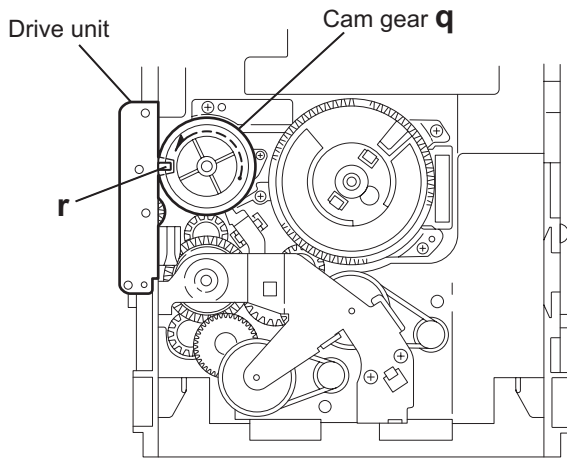

Fig.15
3.3.7 Removing the cam unit (See Fig.15 ~17)